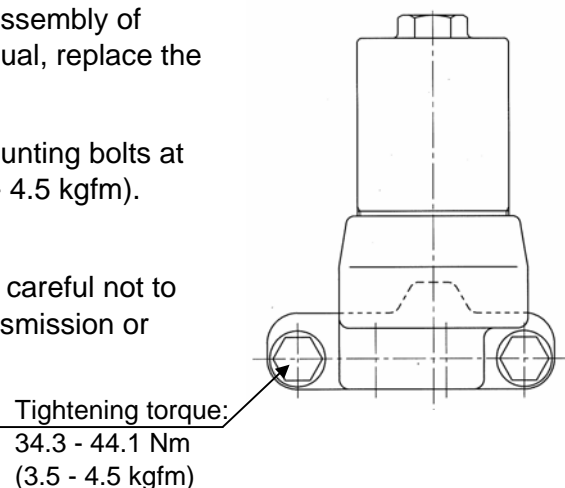

Fig. 2
2. After replacing the filter ass'y, tighten the mounting bolts at the tightening torque of 34.3 - 44.1 Nm (3.5 - 4.5 kgfm). (Refer to Fig. 2.)